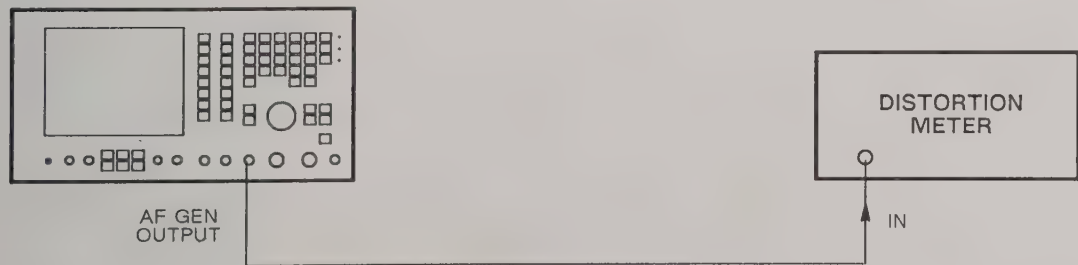

Fig. 6-13 Test equipment connections for AF generator distortion
- (1) Connect the distortion meter to the AF GEN OUTPUT socket. See Fig. 6-13.
- (2) On the 2955A, set the MODE to AUDIO TEST. Ensure that GEN 1 is ON and GEN 2 is OFF. Press the TONES and AUDIO SETUP keys. Set the GEN 1 FREQ to 5 kHz, LEVEL to 2 V and SHAPE to SINE.
- (3) Tune the distortion meter and check that the reading is <1%.
- (4) Reset the GEN 1 FREQ to other frequencies and LEVEL to other deviations between 50 Hz and 15 kHz.
- (5) On the 2955A, reset the AF GEN FREQ to 1 kHz.
- (6) Tune the distortion meter and check that the reading is <0.5%.